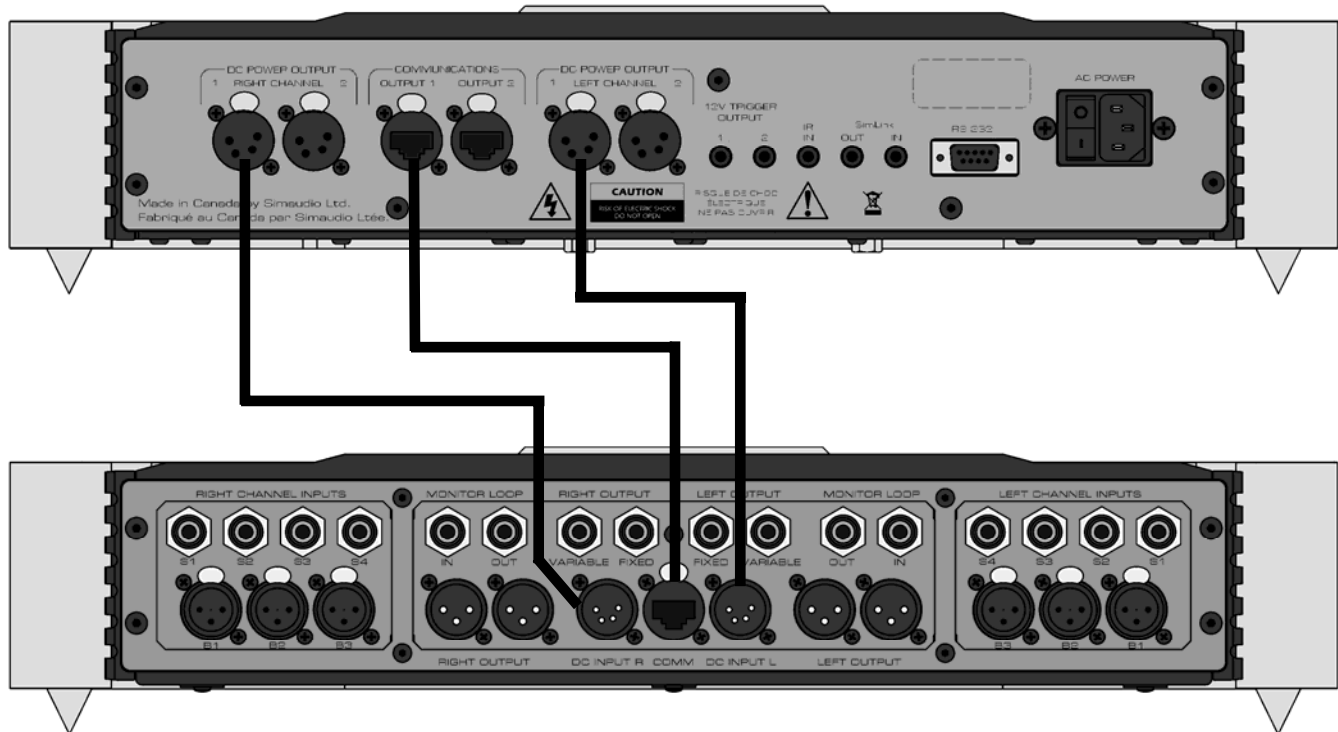

Figure 1: Connecting the MOON 850P Preamplifier (bottom) and 850P Controller (top)
There are three (3) connections that must be made between the **MOON 850P** Preamplifier's chassis and its separate controller chassis as shown above in Figure 1; First, using one of the two supplied 4-pin XLR cables, connect the end with the male pin socket to the plug labeled "DC Power Output Right Channel" located on the rear panel of the controller. Connect the other end of the cable, with the female socket, to the plug labeled "DC Input R" located on the rear panel of the preamplifier. Next, using the other 4-pin XLR cable, repeat the same process between "DC Power Output Left Channel" and the "DC Input L" socket. Finally, using the supplied 8-pin Ethercon cable (both ends are identically terminated), connect one end to the plug labeled "Communications Output 1" located on the rear panel of the controller. Connect the other end of the cable to the plug labeled "Comm" located on the rear panel of the preamplifier. You will notice that there are two sets of each output connector on the controller, however only one of each is required to operate this preamplifier; the other connectors are for possible future use with other components. Do not attempt to modify the lengths these cables – they are specifically designed for optimal performance.